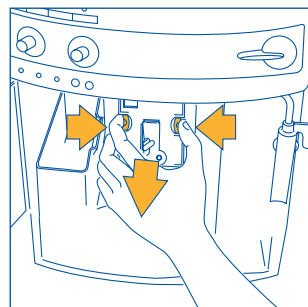

Fig.29
- press the two red release buttons on the infuser sideways and towards the center (Fig. 29) and pull it out;